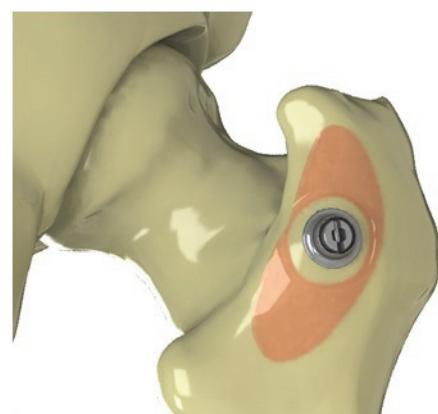

Figure 6. Position of the Femoral Cortical Screw with soft tissue cleared around the flange
6. Ensure all soft tissue has been cleared around the screw flange where it intersects the cortex. Screw should be seated so that no soft tissue interferes with screw placement (Figure 6).